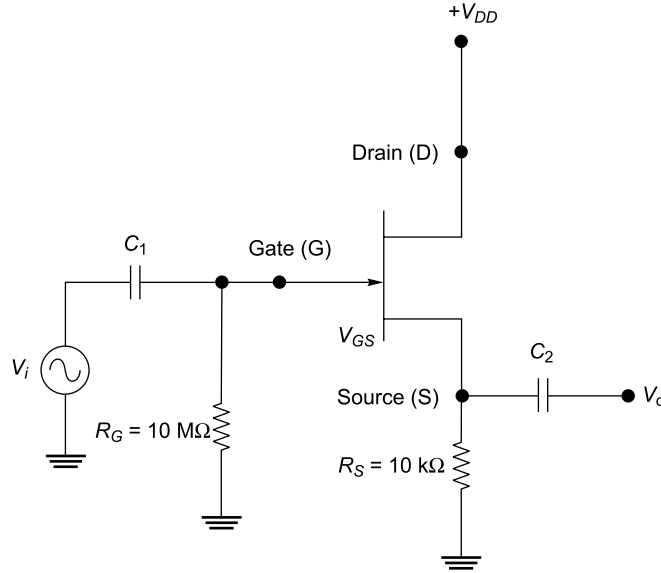

Fig. 1.84
1.18 Figure 1.84 shows a common drain JFET amplifier circuit. Determine the voltage gain of the amplifier, input resistance and output resistance if $g_m = 5 \text{ mA/V}$. The effect of drain resistance is neglected ($r_d = \infty$).